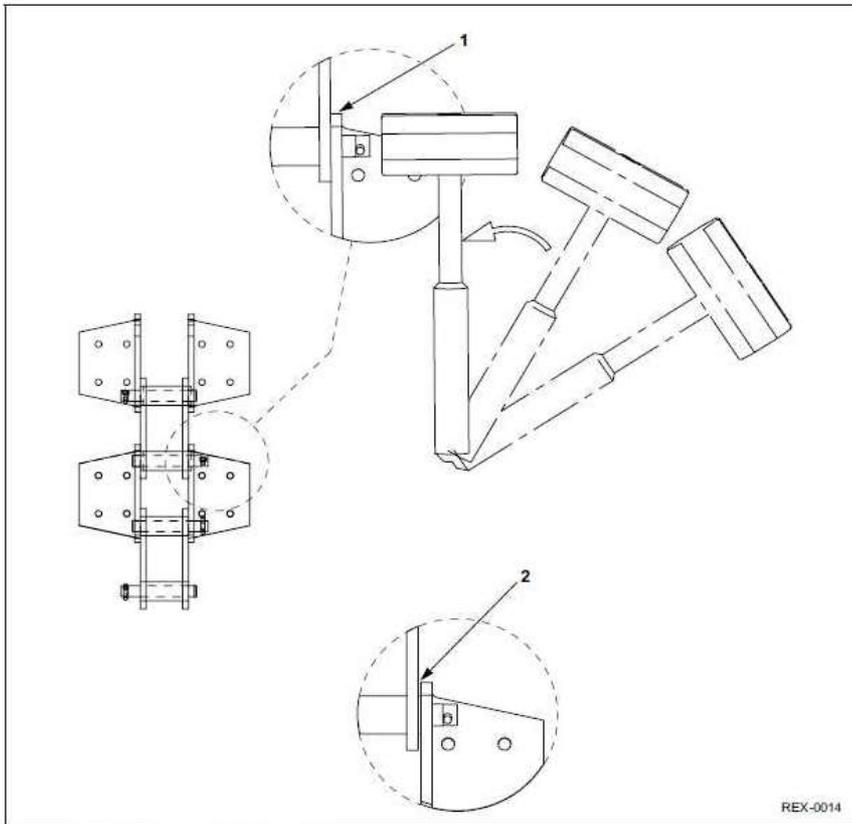

Figure 5
9. Check the link for mobility. If necessary, hit the end of the chain pin back until mobility of the link is ensured. Fig. 5